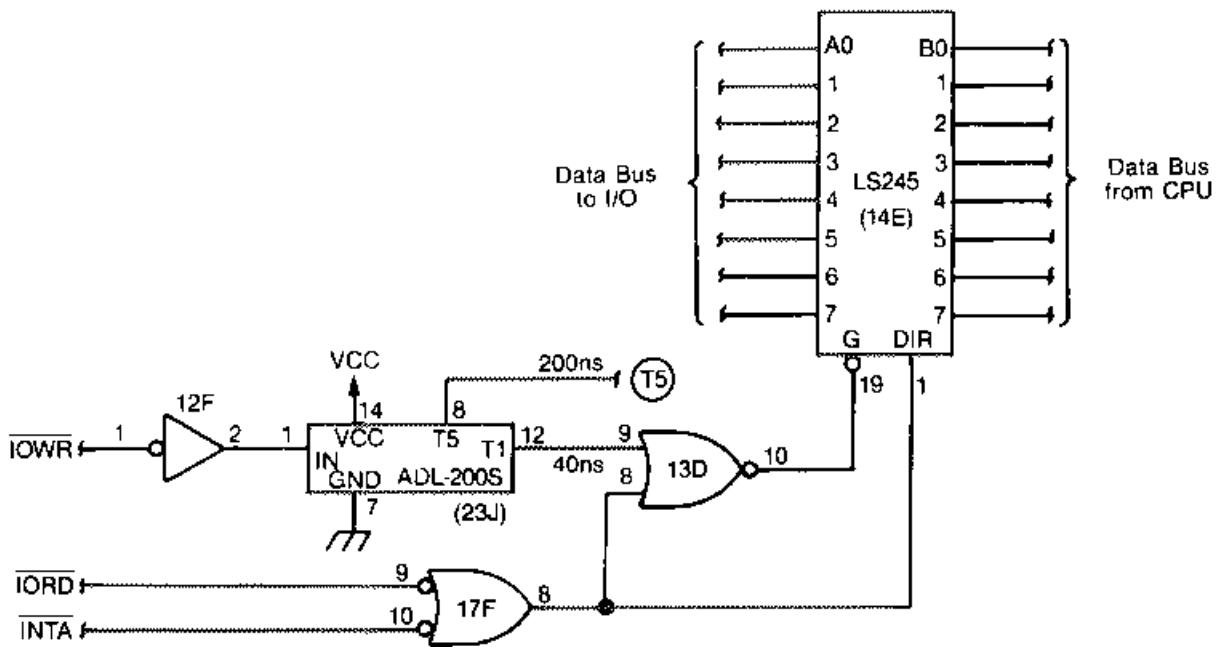

FIGURE 2-27. DATA BUS DIRECTION CONTROL CIRCUIT
2.3.1.7 Data Bus Direction Control Circuit (Figure 2-27)